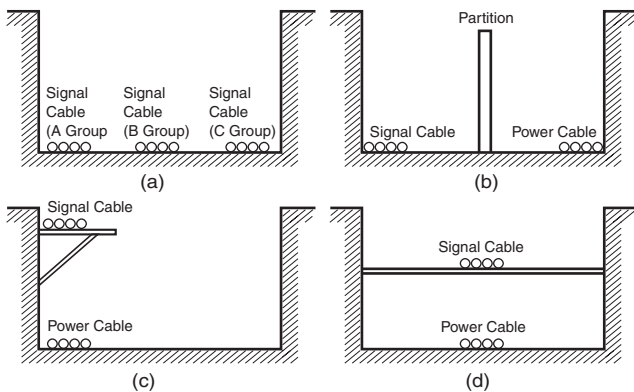

Figure 9. Isolating Signal and Power Cables
- ① Isolate signal cables with different characteristics when routed in the same duct.
- ② Routing more than one power line in the same duct should be avoided as much as possible. Where this cannot be avoided, place a partition in the duct and ground it. (See Figure 9)